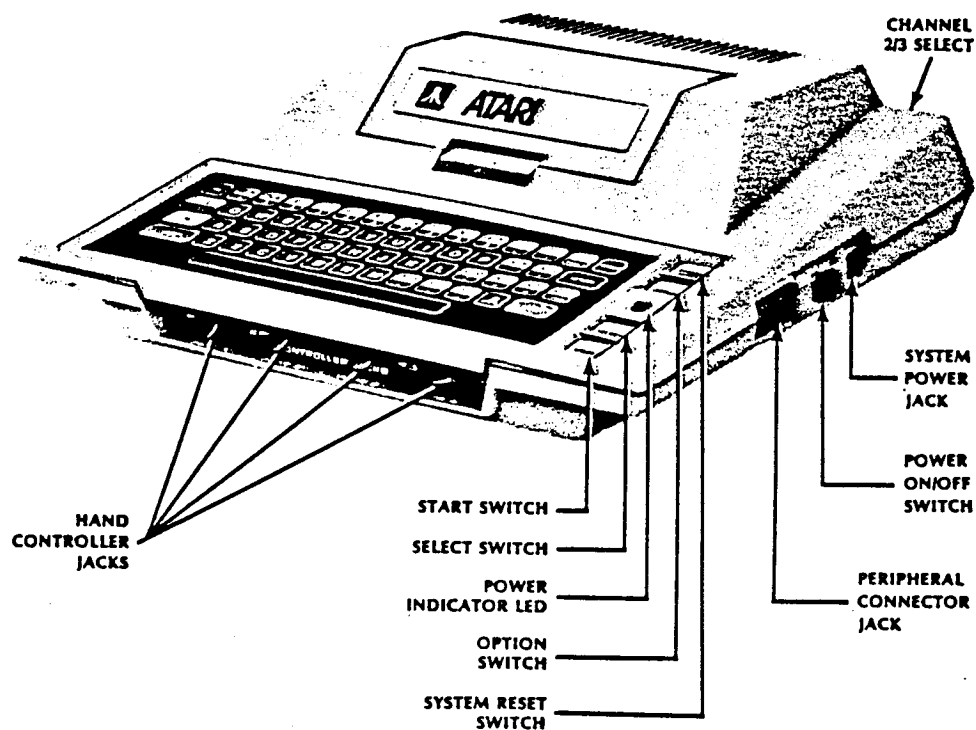
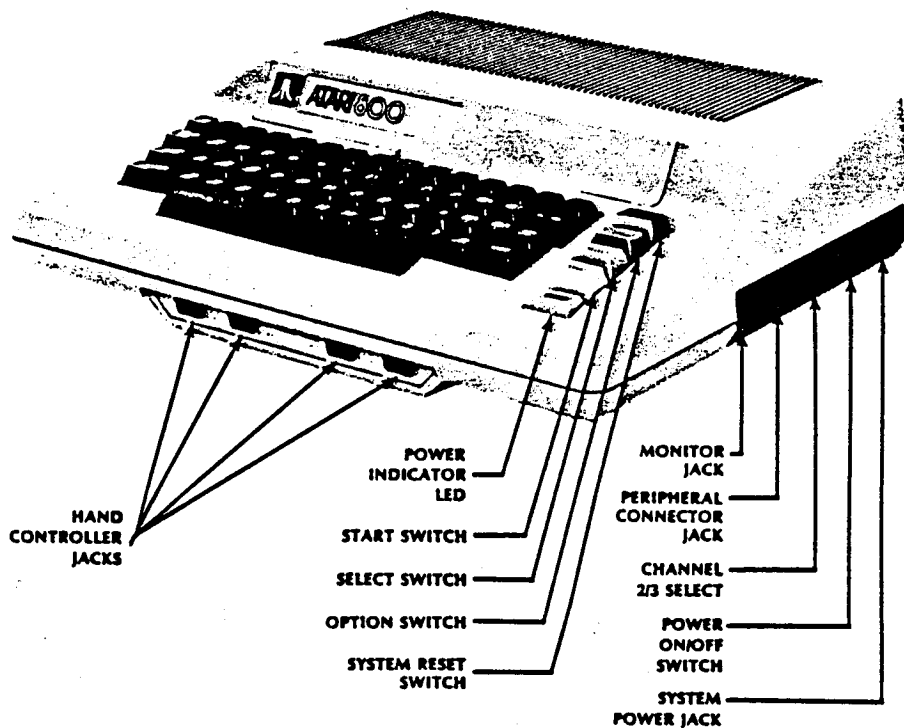

Figure 1-1. ATARI 400 Home Computer Console
Figure 1-2. ATARI 800 Home Computer Console
The Atari 400 Computer Home Console contains the central processor unit (CPU) and memory in the form of the Operating System (read-only-memory (ROM)) and 8K or 16K of user programmable random access memory (RAM). The console contains the keyboard, cartridge slot, controller jacks, and serial input/output (I/O) port for connecting peripheral devices (see Figure 1-1).
The ATARI 800 Home Computer Console contains the CPU and memory in the form of the Operating System (10K of read-only-memory (ROM)) and 8K to 16K (standard) of user programmable random access memory (RAM); plus two expansion sockets for additional RAM modules (maximum 48K). The console also contains the keyboard, cartridge slots (2), controller jacks and a serial I/O port for connecting peripheral devices (see Figure 1-2).
The right side panel of the Atari 400 Computer Console contains a peripheral jack, power ON/OFF switch, and a power jack. The channel 2/3 switch is located on the back of the console. This switch changes the console transmission frequency to either channel 2 or channel 3 (refer to Figure 1-1).
The right side panel of the Atari 800 Home Console contains a monitor jack, a peripheral jack, a channel 2/3 switch, a power ON/OFF switch, and a power jack (refer to Figure 1-2).
Both Console keyboards provide a full alphanumeric character set, cursor controls, and special purpose keys. The alpha keys when used in conjunction with the Control (CTRL) key become special graphic symbols. To the right of the keyboard is the power ON light and four special control keys (refer to Figure 1-1 and Figure 1-2). From the top to the bottom they are: